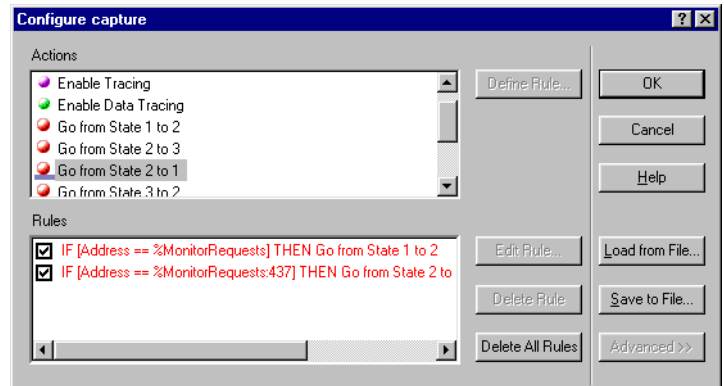

Figure 8-41 Configure capture dialog box
6. Click **Finish** to create this rule. The Configure capture dialog box is updated as shown in Figure 8-41.